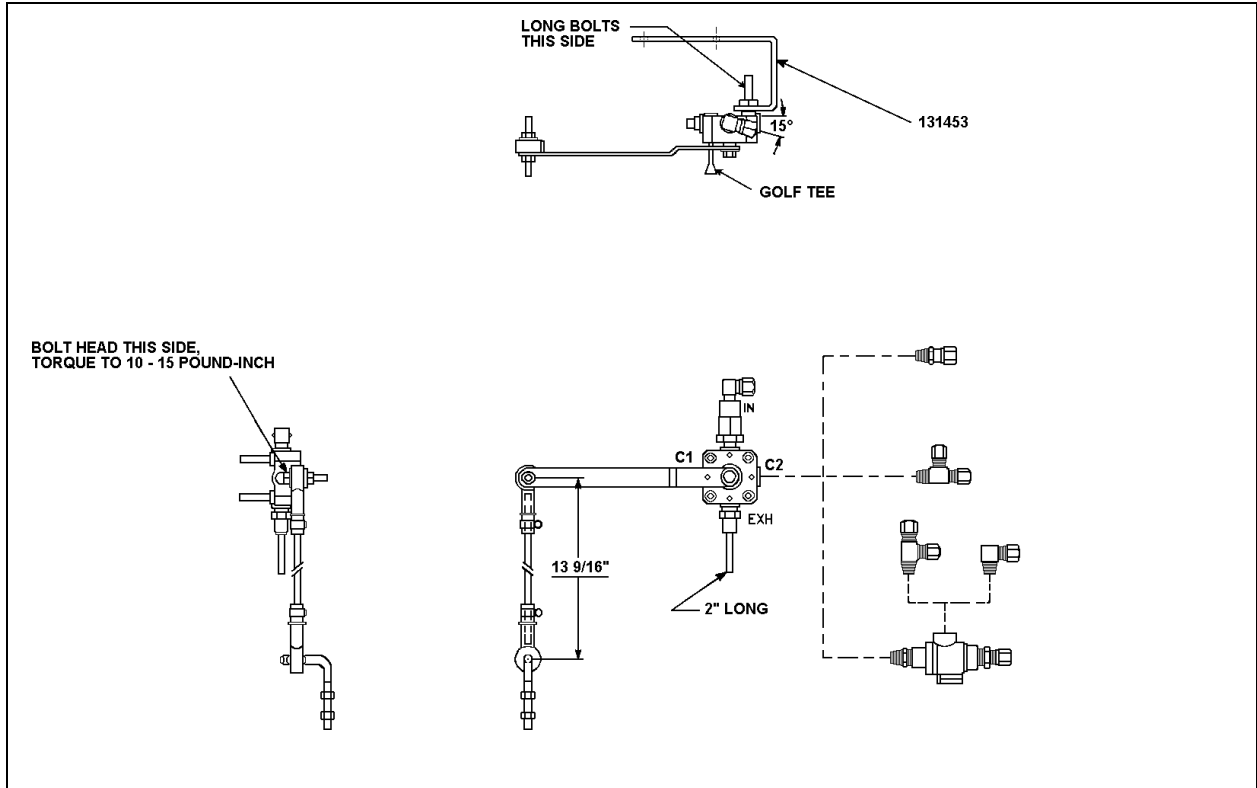

FIGURE 5: INSTALLATION OF BARKSDALE REAR LEFT HEIGHT CONTROL VALVE
6. Dismantle the valve, discard Neway valve but retain the couplings. Remove the restrictions from inside the couplings, discard restrictions. Clean the couplings and apply Teflon sealant paste over the threads. Install a check valve (Prévost #640135) on the inlet coupling of the valve. Do not use a vise to secure the valve body when reinstalling the couplings, mount nuts on the studs and clamp the nuts in the vise. Avoid overtorquing couplings, handtighten only then rotate 1 ½ turn then position coupling to the required angle. Turn valve lever three times in each direction to settle it. Install coupling (Prévost #641332) with the flexible hose (Prévost #503402) on the exhaust port (refer to fig. 5).
8. Install rubber bushing (Prévost #630133) on the existing bent rod, insert new rod (Prévost #131447) in the rubber bushing then install second rubber bushing (Prévost #630117) on the rod. Secure using clamps (Prévost #504014) as shown on fig.5.